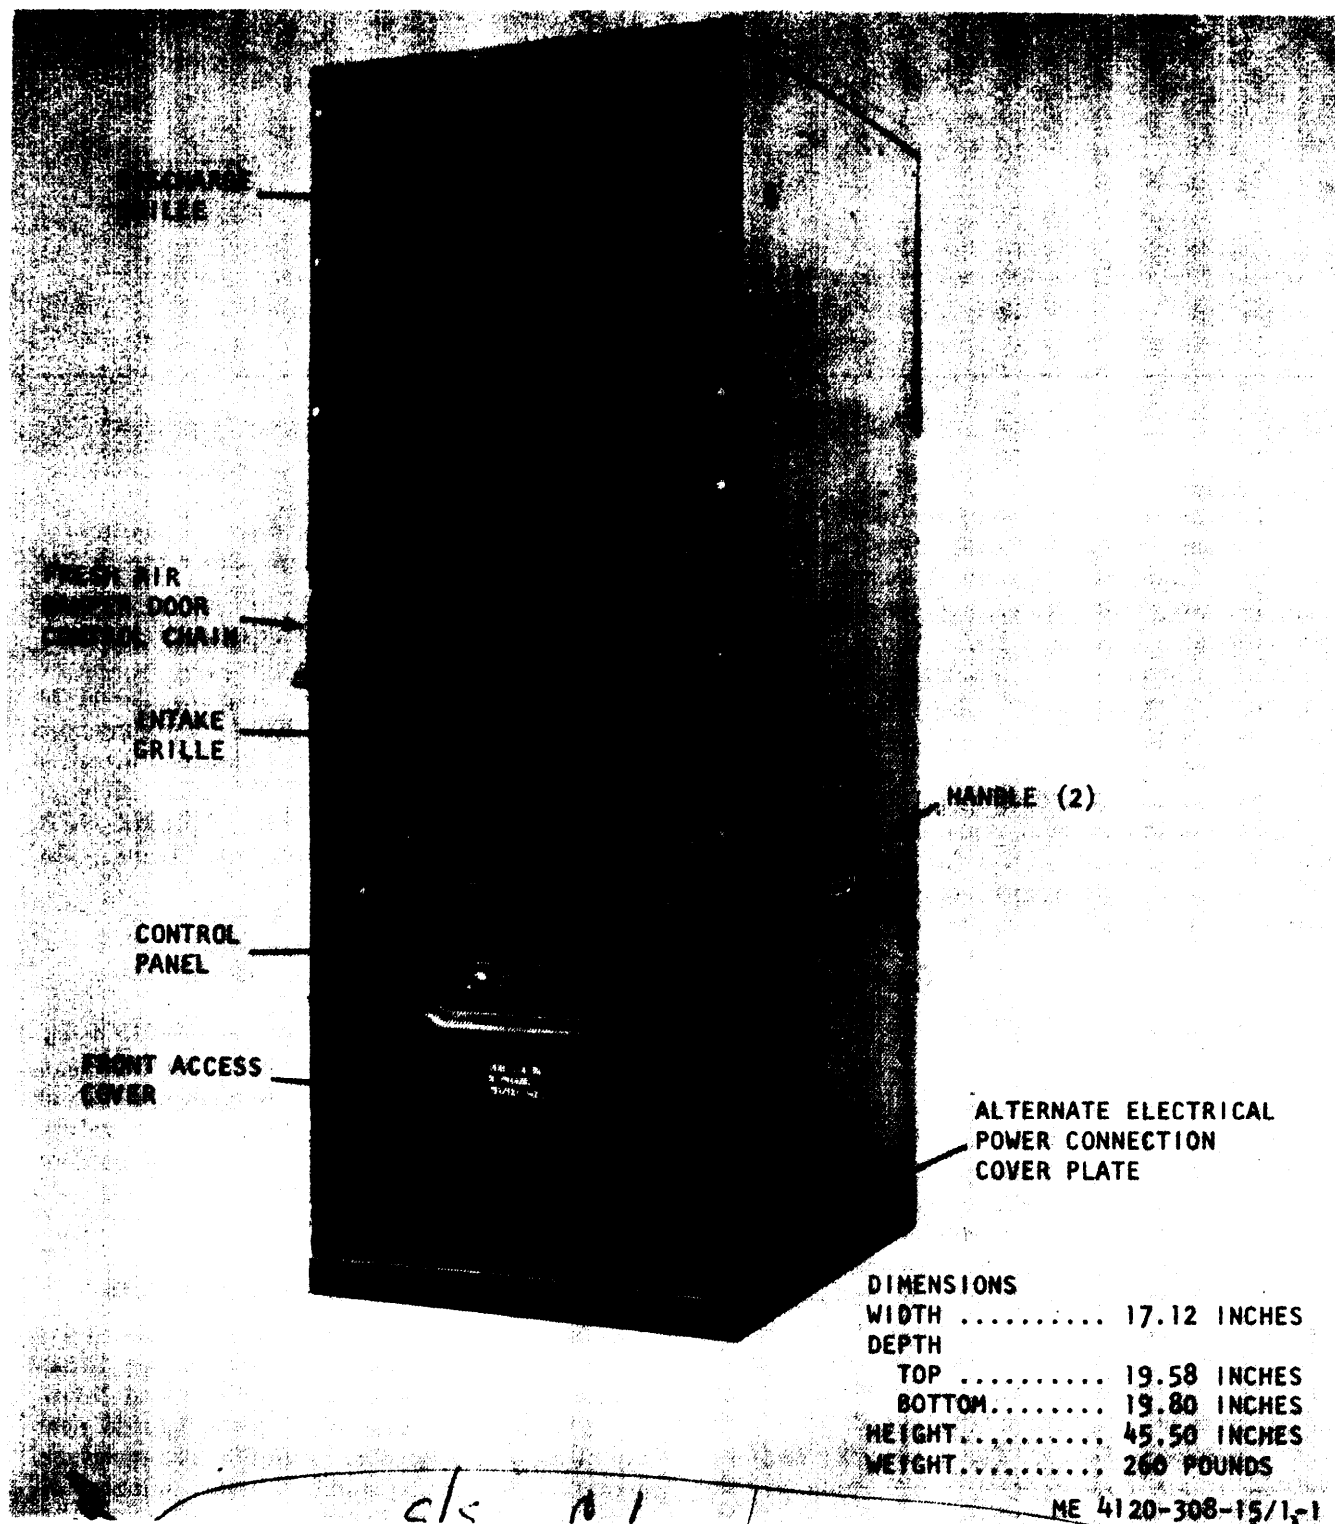

Figure 1-1. Air conditioner, left front three-quarter view, with shipping dimensions.
a. *General.* The air conditioner fig. 1-1 and 1-2) is used primarily in van-type enclosures for providing filtered, cooled, or heated air as required to maintain conditions necessary for the efficient operation of electronic equipment and for the comfort of operating personnel within the enclosure. It is a completely self-contained, air-cooled, electric motor-driven unit designed for continuous operation with varying loads. It is equipped with internal ducting, such that filtered air from a chemical and biological filter unit may be ducted to the evaporator fan and coil.